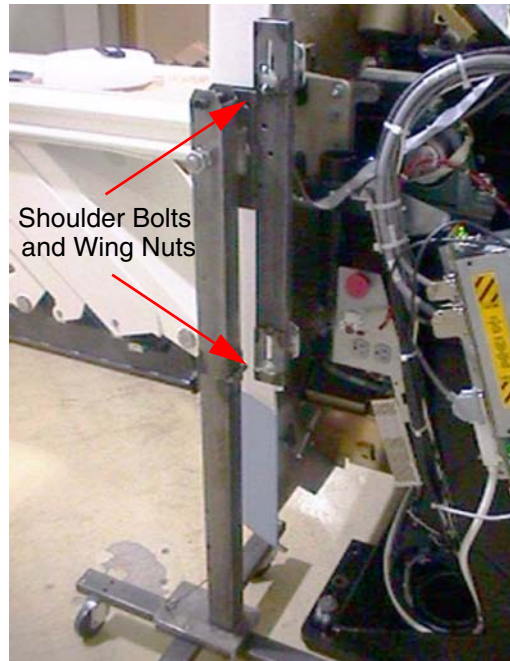

Figure A-10 Front Side Dolly
- a.) Tighten the two (2) shoulder bolts to the gantry securely. This makes cover installation easier (see Figure A-10).